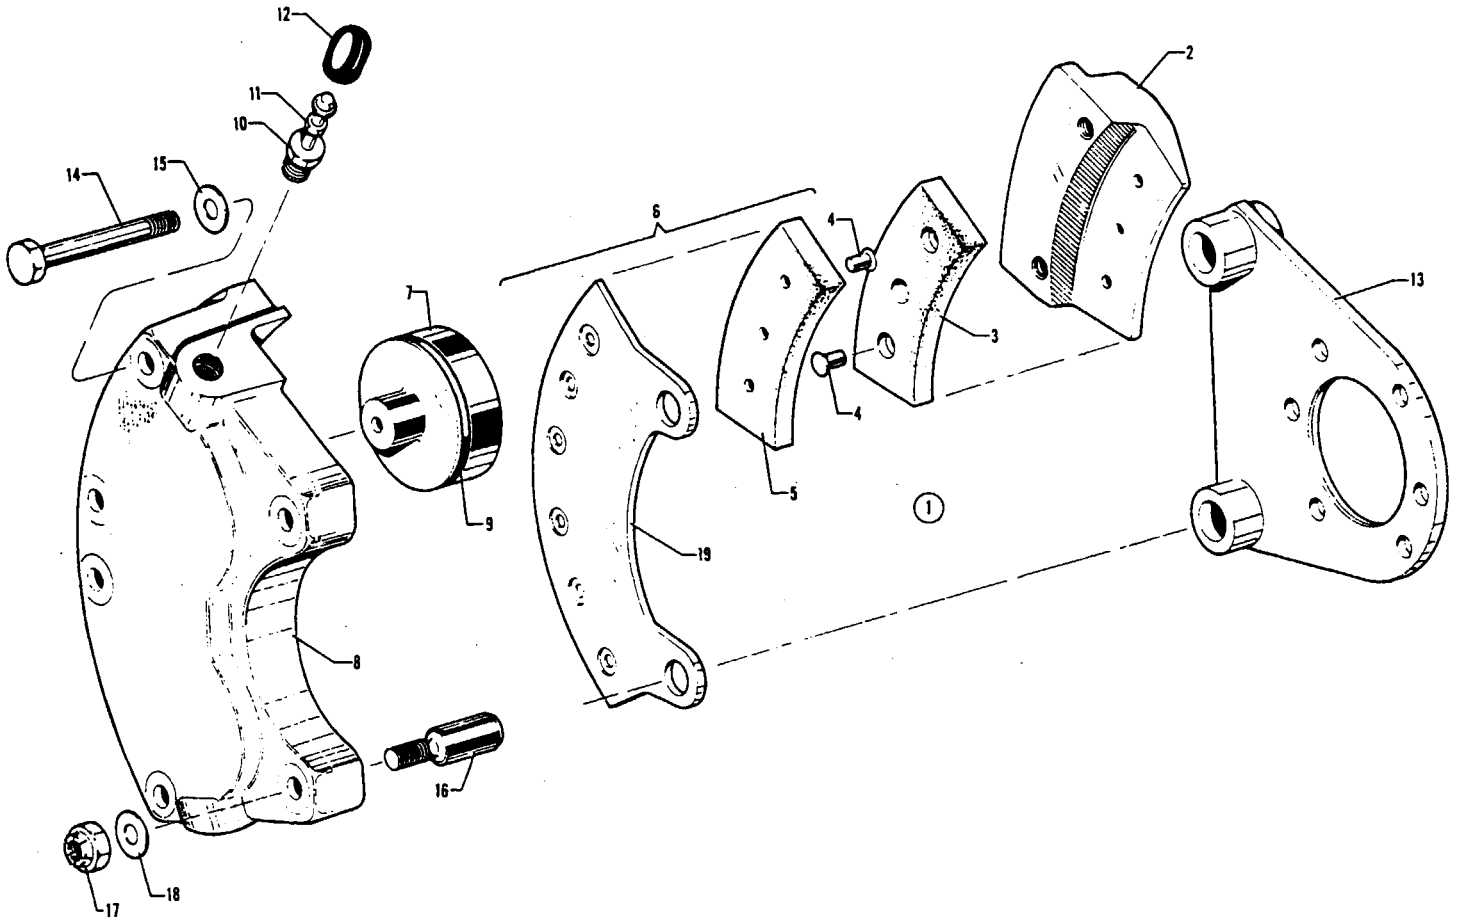

Figure 25A. Brake Assembly (Cleveland)
- C - See Figure 25A for component parts.